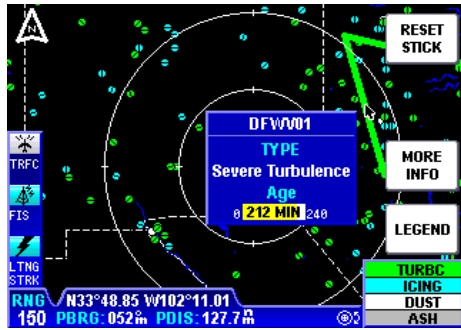

Figure 2-40
3. To view a specific SIGMET, move the joystick in the desired direction and place the pointer on the desired SIGMET border (see Figure 2-40). A box will pop up containing the SIGMET designator, **TYPE** and the **AGE** of the report.